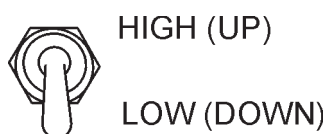

Figure 37. Engine Speed Switch
6. Make sure the engine switch is on "LOW" (Figure 37).